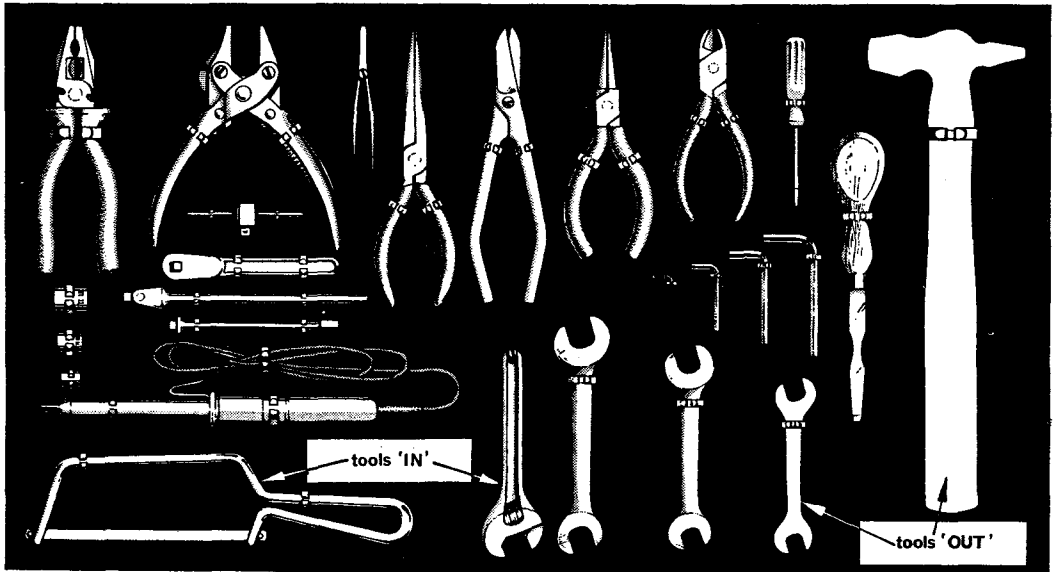

Fig. 1 Shadow board and tools
1. In this chapter we shall consider the common hand tools used by electrical and electronic tradesmen. Some of the special tools used only for wiring will be found in Chapter 4. Modern practice is to have a 'shadow board' on which the tools normally used are mounted (Fig. 1). A shadow board is a black wooden board on which the outlines of tools are painted in white. Retaining clips secure the tools against their appropriate shadows on the board. By checking the shadow board the NCO responsible can see, quickly and easily, which tools are 'out' and thus reduce the possibility of an accident being caused by loose tools in an aircraft.